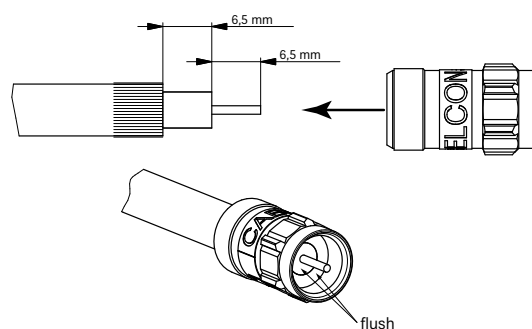

Fig. 4: Plug mounting
2. Mount the supplied F-type plug onto the Kathrein cable types LCD 90, LCD 111 A+, LCD 115 A+, LCD 120 A+ oder LCD 130 A+ and connect to the LNB (see Fig. 4).